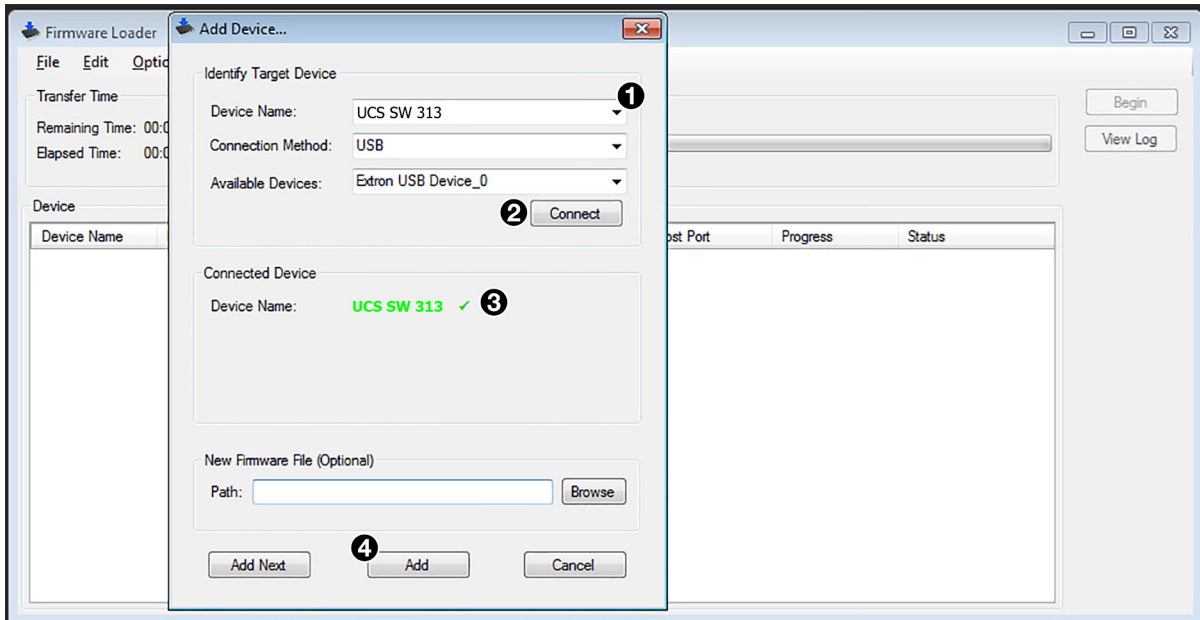

Figure 25. Successful Connection to the Switcher via Firmware Loader
2. From the Device Name drop-down list (see figure 25, ①), select **UCS SW 313**.
3. Click **Connect** (②). If the connection is successful, UCS SW 313 ✓ is displayed in green in the Connected Device panel (③).